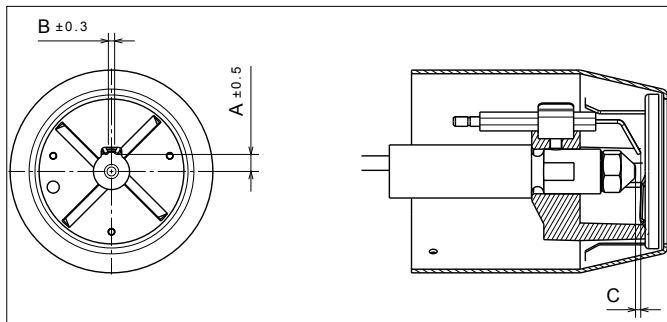
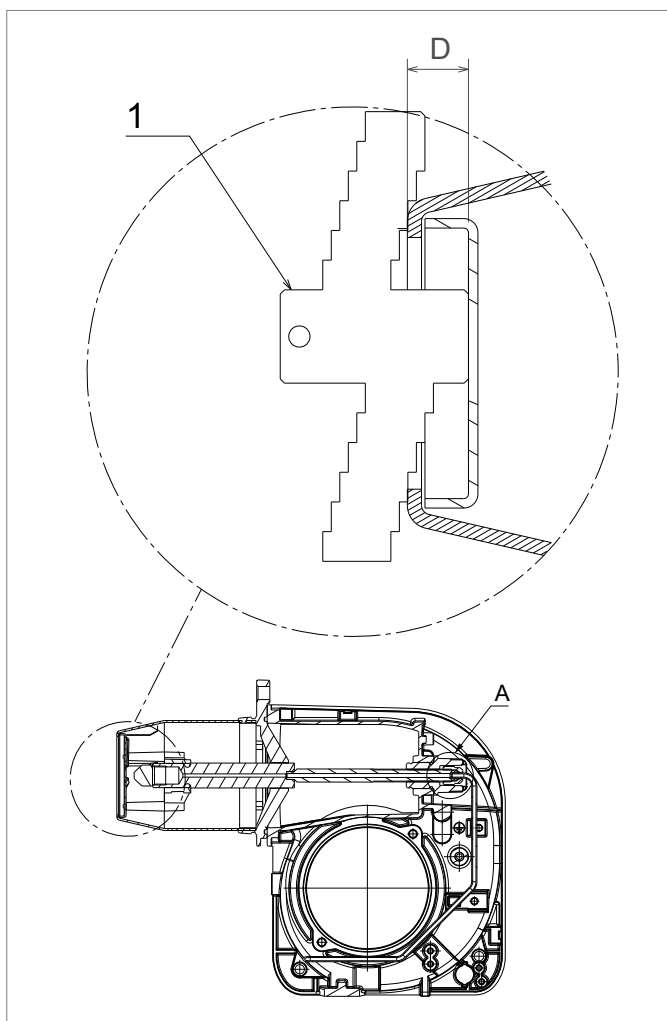

Figure 10-4: Ignition electrode settings
Figure 10-5: Diffuser position and gauge plate
6. Check/adjust electrode setting. Refer to Figure 10-4.
7. Re-fit the burner head. Refer to Figure 10-4.
- Locate the head fixing screws (5) in the countersunk slots in the burner collar.
- Tighten the two screws (1) to secure the head (2) in position on the burner.
8. Adjust the diffuser position. Refer to Figure 10-5.
- Position the gauge plate on the burner head as shown in Figure 10-5.
- If necessary, adjust distance D using the black adjustment knob located around the oil supply pipe on the front of the burner. Refer to item A (Figure 10-5). Re-check distance D using the gauge plate, as described above.